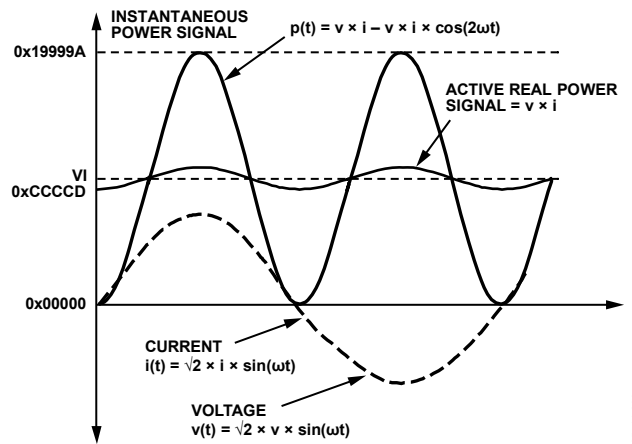

Figure 42. Active Power Calculation
Note that the active power is equal to the dc component of the instantaneous power signal $p(t)$ in Equation 9, that is, VI . This is the relationship used to calculate active power in the ADE5566/ADE5569/ADE5166/ADE5169. The instantaneous power signal $p(t)$ is generated by multiplying the current and voltage signals. The dc component of the instantaneous power signal is then extracted by LPF2 (low-pass filter) to obtain the active power information. This process is illustrated in Figure 42.
The ADE5566/ADE5569/ADE5166/ADE5169 also incorporate an active power offset register (WATTOS[15:0]). It is a signed, twos complement, 16-bit register that can be used to remove offsets in the active power calculation (see Figure 42). An offset can exist in the power calculation due to crosstalk between channels on the PCB or in the IC itself. The offset calibration allows the contents of the active power register to be maintained at 0 when no power is being consumed.
As mentioned in the Active Energy Calculation section, the discrete time sample period (T) for the accumulation register is 1.22 μs (5/MLCK). With full-scale sinusoidal signals on the analog inputs and the WGAIN register set to 0x000, the average word value from each LPF2 is 0xCCCCD (see Figure 42). The maximum positive value that can be stored in the internal 49-bit register is 2⁴⁸ (or 0xFFFF,FFFF,FFFF) before it overflows. The integration time under these conditions when WDIV = 0 is calculated in the following equation: